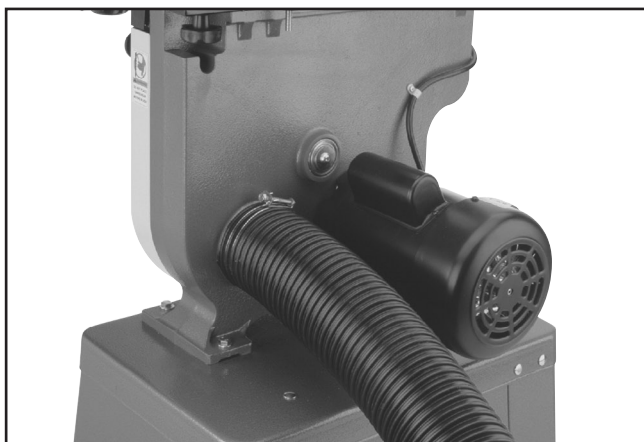

Figure 16. Dust hose attached to dust port.
1. Fit the 4" dust hose over the dust port, as shown in **Figure 16**, and secure in place with a hose clamp.